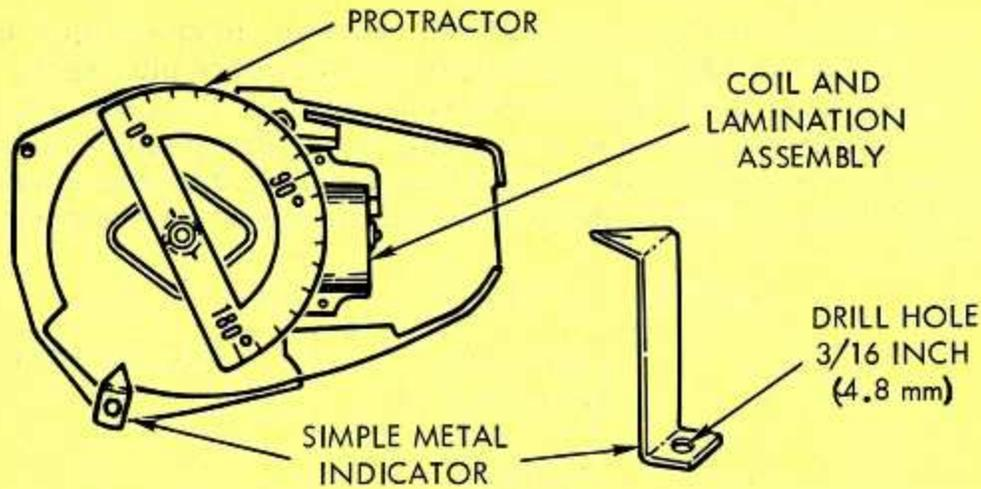

FIGURE 4
4. Remove the fan housing, flywheel, and breaker box cover from the engine. Install the degree wheel (protractor assembly) on the flywheel end of the crankshaft and tighten the special nut finger tight. (Figure 4.)
5. Make a simple indicator for the degree wheel from any thin metal strip (Figure 4). Mount the indicator on one coil lamination post or on the crankcase cover, whichever is most convenient for the size of the protractor being used. Just be sure that the indicator is close to and points directly at the protractor scale.